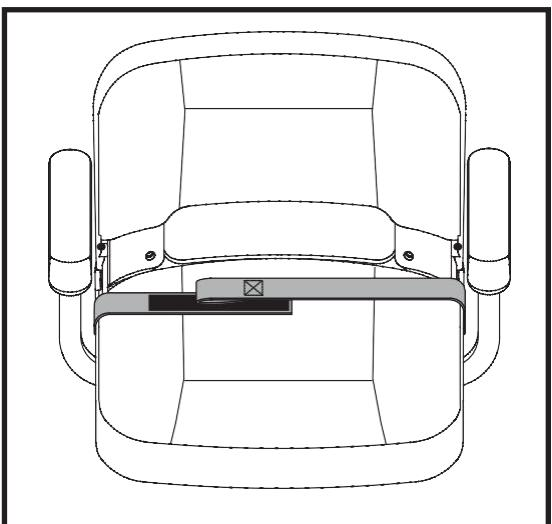

Figure 30. Positioning Belt - Reusable Hook and Loop Fastener Style
1. Align the two sides of the belt placing the looped-end side directly above the coarser side ("hook") of the opposite belt. Press firmly together to fasten. See figure 30.